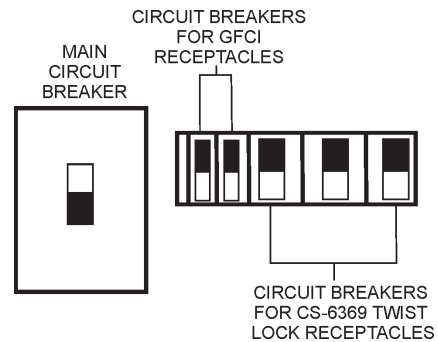

Figure 42. Main, Aux. and GFCI Circuit Breakers (OFF)
1. Place the **main, G.F.C.I.** and **aux.** circuit breakers (Figure 42) in the “**OFF**” position prior to starting the engine.